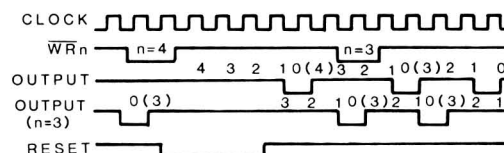

Figure 14-7. Timing Mode 2
**Rate Generator (Mode 2)** — Figure 14-7 illustrates Mode 2. In this mode, the counter will produce a low for one clock cycle on its output pin every  $n$  clock cycles. As long as the gate remains high, the counter will repeatedly decrement the value to zero and start over. If the counter's value is changed, the new value will take effect for the next counting cycle and not affect the current cycle. This action is illustrated in the upper set of lines.